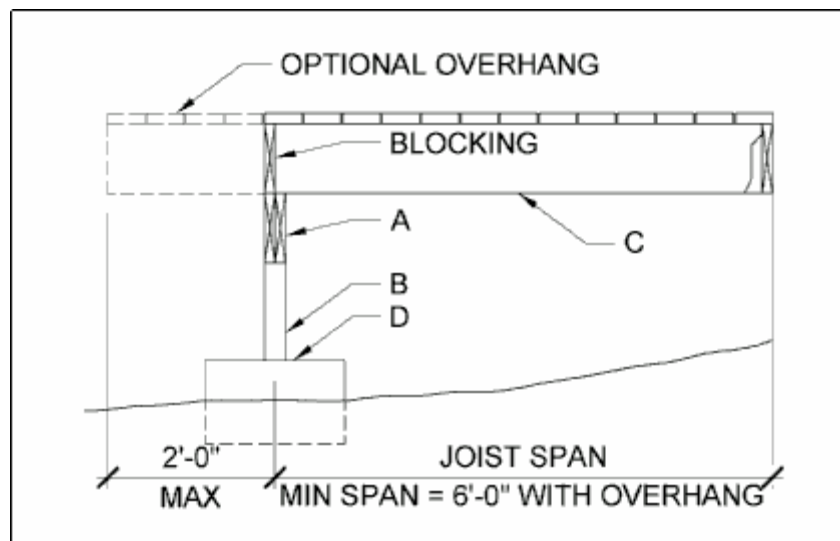

Figure 1 - Joist Span – Deck Attached At House
4. Determine how big and what configuration you want your deck. Note: The drawings contained in this document may indicate square or rectangular configurations; however, configurations can be diamond, trapezoidal, or other shapes as long as the longest spans are used to determine beam, joist, and footing sizes. The deck can have up to a two-foot maximum joist and/or beam overhang. See Figures 1, 2, and 3. (Beams are identified as item "A", posts as item "B", joists as item "C," and footings as item "D."). **It is recommended that you first determine the joist span "C," and then note what beam and footing sizes you will need.**
The span of a joist is measured from the centerline of bearing at one end of the joist to the centerline of bearing at the other and does not include overhangs. Maximum joist span lengths are noted in Tables 2 and 3. See Figures 1 and 2 for joist span types.